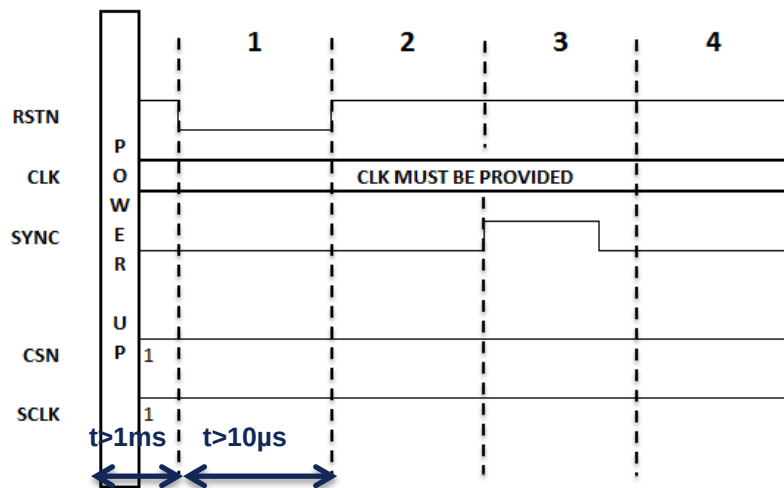

Figure 12: Start-up sequence when the SPI interface is not used
3. A pulse is applied onto the SYNC input to reset the internal clocks (SYNC signal in Figure 12) ;